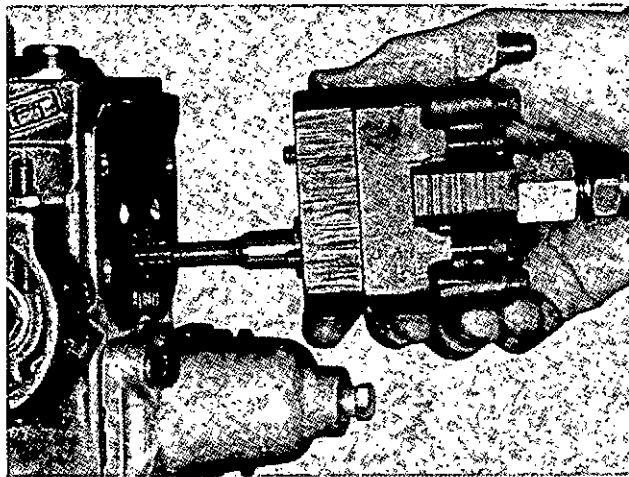

Fig. 1-2, (F508). Remove the gear pump.
3. Remove the gear pump from the main housing. Hit the sides of the gear pump with a plastic hammer to loosen it from the ring dowel. Remove the gear pump and discard the gasket, Fig. 1-2.